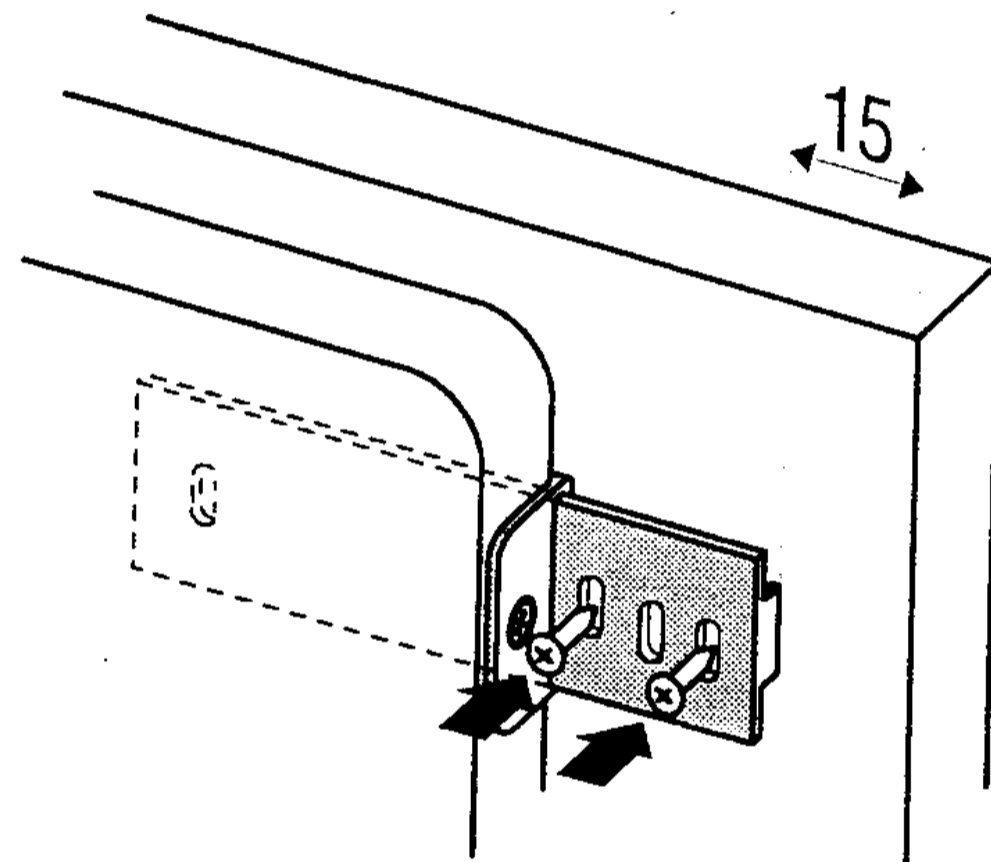

Fig. 3
- ❖ Insert the slides into the guides and fix them on the kitchen unit door 15 mm from the edge, using the A 4 x 12 screws (Fig. 3).